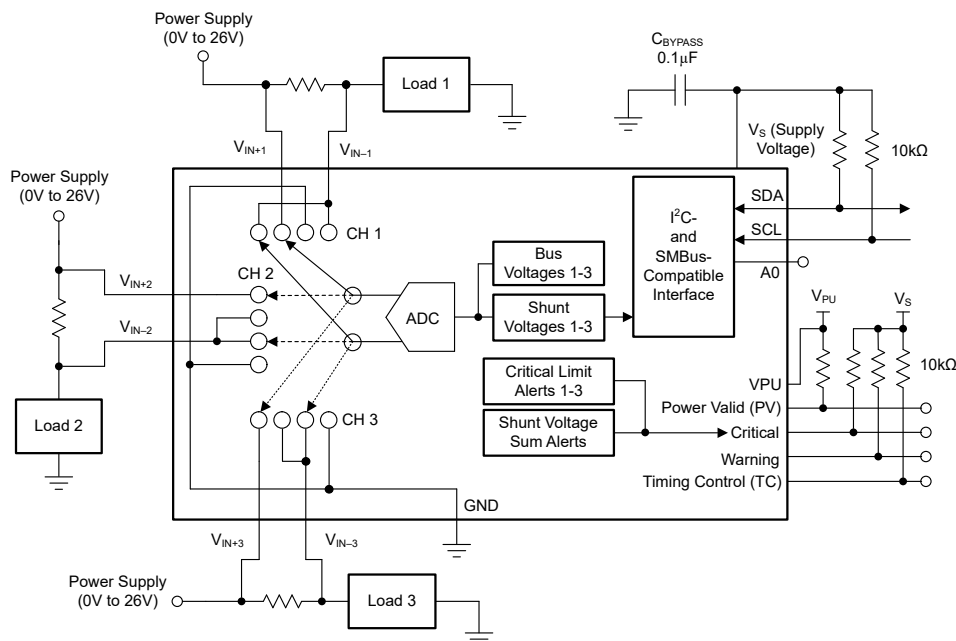

Figure 9-1. INA3221-Q1 as an Overcurrent Sensor
Figure 9-1 illustrates a typical INA3221-Q1 application circuit using all three channels. For best performance, use a 0.1µF ceramic capacitor for power-supply bypassing, placed as close as possible to the supply and ground pins. The digital pins (SCL, SDA, Critical, Warning, TC) are connected to supply through pull-up resistors. The power valid (PV) alert pin is connected to the VPU pin through a pull-up resistor to enable power-valid monitoring.